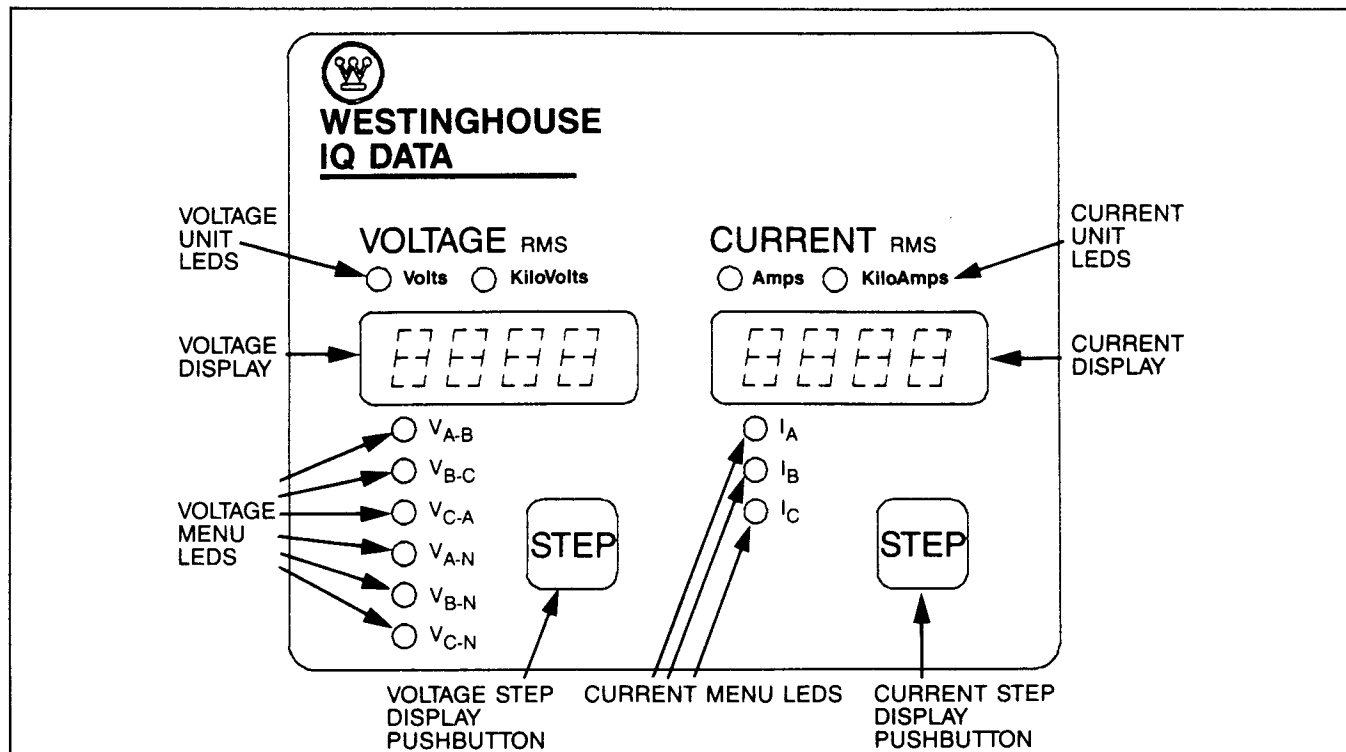

Figure 3.1 Operator Panel
- Monitor the actual metered values on the Display Window. (See Figure 3.1.)
**3.1 Membrane Pushbuttons** — The Operator Panel supports 2 membrane pushbuttons. (See Figure 3.1.) Both membrane pushbuttons perform the following function: